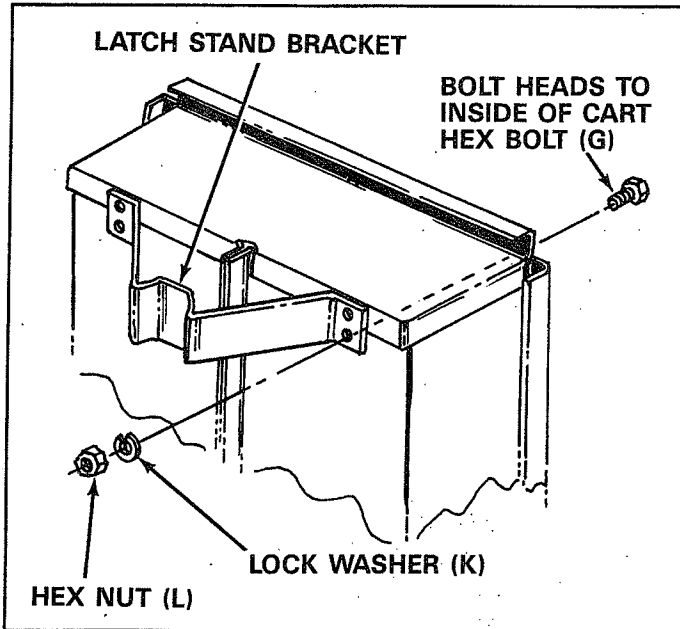

FIGURE 8
- Assemble latch stand bracket using four 1/4" x 5/8" hex bolts (G), lock washers (K) and hex nuts (L). See figure 8.